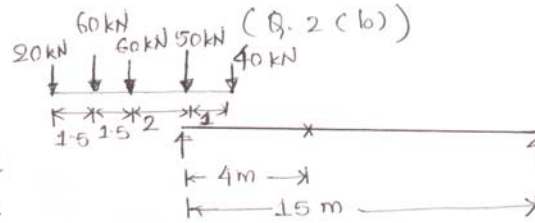

Fig. 4
- Q.3** (a) The five moving loads 20 kN, 60 kN, 60 kN, 50 kN and 40 kN (Distances between those loads are 1.5 m, 1.5 m, 2 m, and 1 m) passing on a simply supported beam is shown in Fig. 4. Determine Maximum bending moment at a section 4 m from left support. **07**
- Q.3** (a) The five moving loads 20 kN, 60 kN, 60 kN, 50 kN and 40 kN (Distances between those loads are 1.5 m, 1.5 m, 2 m, and 1 m) passing on a simply supported beam having a length of 15 m is shown in Fig. 4. Determine Maximum shear force at a section 4 m from left support. **07**